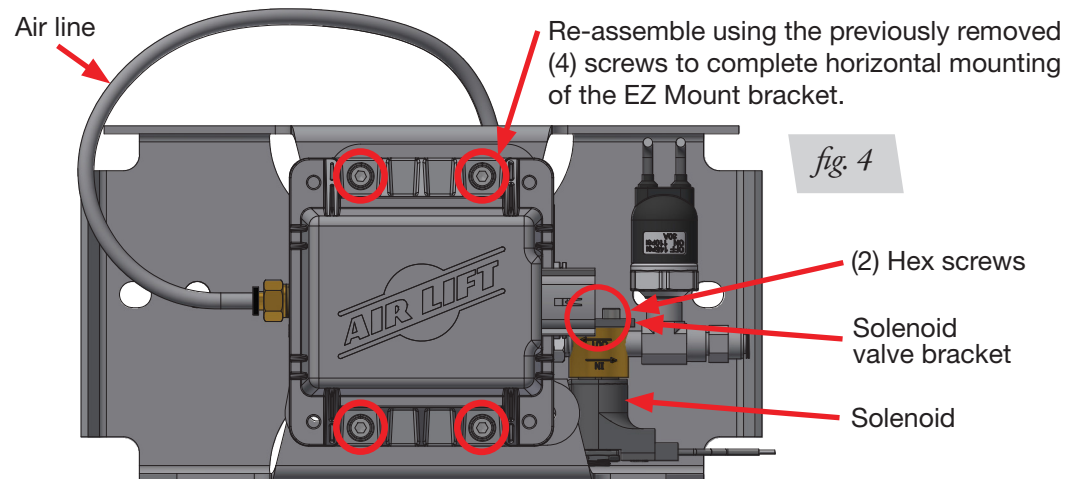

fig. 4
2. If you plan to mount the EZ Mount bracket horizontally (Fig. 4), you need to reposition the solenoid/filter bracket/air line into another orientation.
5. Remove the (2) hex screws from the solenoid valve bracket/assembly (Fig. 4) using a 3/32" hex wrench.
6. Use the other (2) hole pattern in the bracket to re-install the assembly in the proper orientation (Horizontal) (Fig. 4). Torque the screws to 23 in.-lbs.
7. Re-assemble the bracket and manifold to the EZ Mount bracket (as shown in Fig. 4) with the previously removed (4) screws. Torque the screws to 23 in.-lbs.
8. Cut a piece of air line in a 10-12" length and connect between the elbow fitting and the manifold as shown in Figure 4.